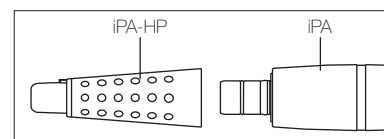

Fig. 4
- 3) Remove the handpiece tip (IPA-HP) from the motor (IPA). (Fig. 4)